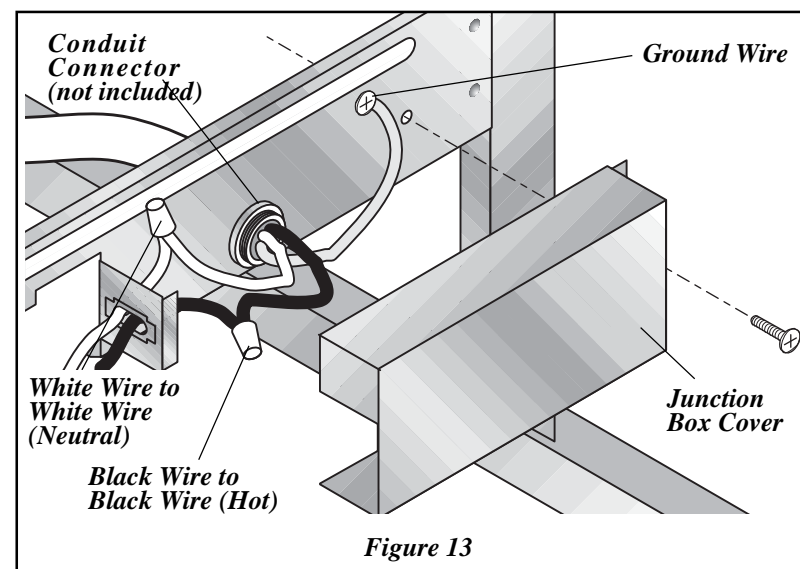

Figure 13
3. Inside junction box, attach ground wire under head of grounding screw and tighten. See **Figure 13**.
5. Replace junction box cover. See **Figure 13**.